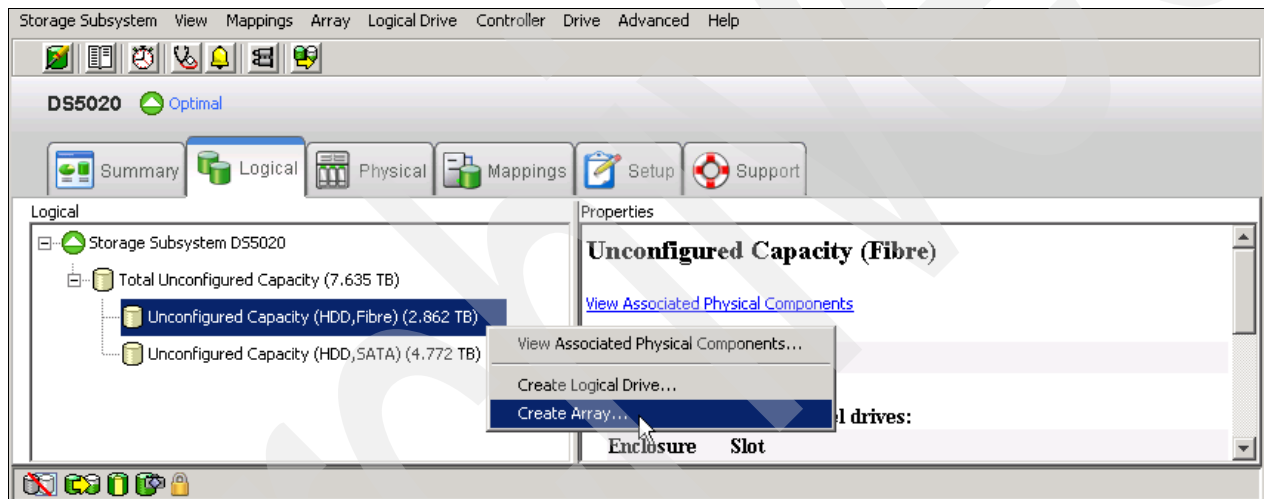

Figure 4-57 Create logical drive from unconfigured capacity
1. In the Subsystem Management window (Figure 4-57), right-click the unconfigured capacity for the selected drive type. Because we have selected unconfigured capacity, we first create an array option. Choosing **Create Logical Drive** causes a window to open that requests that you create the array first. Select **Create Array**.